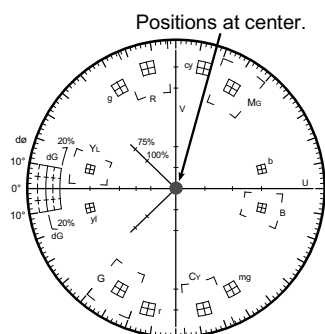

Fig. 4-25
- Adjust data with the **ARROW** keys so that the vector positions at the center of the Vectorscope as shown in Fig. 4-25.